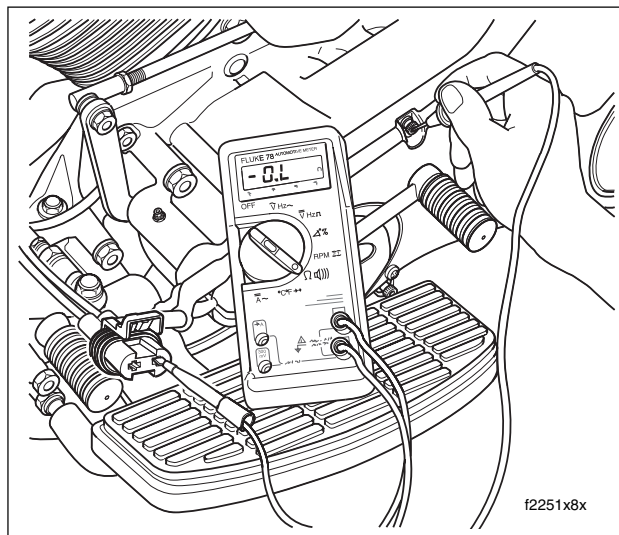

Figure 1-13. Test for Grounded Stator
2. See Figure 1-13. Connect an ohmmeter on the RX1 scale between primary cover bolt and either stator socket. Use Harness Connector Test Kit (HD-41404), red pin probes and patch cords. There should be no continuity (∞ ohms) across either test point. Any other reading indicates a grounded stator which must be replaced.